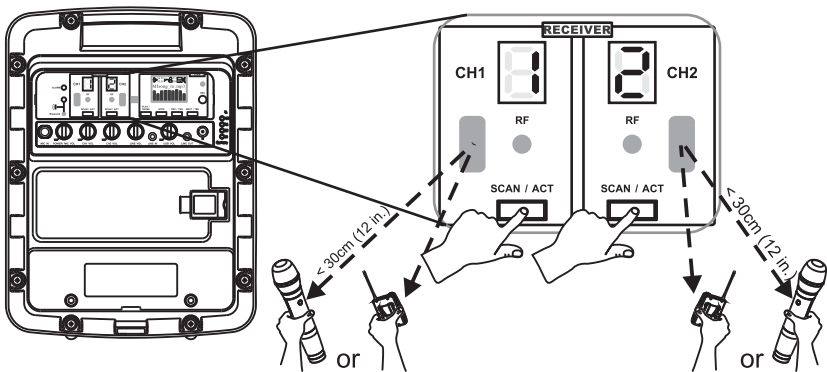

Fig. 6
- (1) Press & hold the SCAN button. Concurrently, turn on the Power Switch/Wireless Mic Volume Control. Press & release the SCAN button will move up to the next available ID code. Turn off the Power Switch/Wireless Mic Volume Control to save this ID CODE.
- (2) Turn on the Power Switch/Wireless Mic Volume Control back on again to perform the ACT synchronization with embedded ID code. Without performing this ACT synchronization step, no sound output because the ID codes has been changed even though the same channel number remains the same.
(F) ACT Synchronization (Sync) between Receiver and Transmitter Channels, Fig. 6:
- (1) Press and release SCAN/ACT button, the current channel blinks and is ready for ACT synchronization.
- (2) Power on handheld or bodypack transmitter. Bring the transmitter sync port (red indicator) within 30 cm (12-inch) of CH 1 or CH 2 receiver sync port, Fig. 6.
- (3) Once ACT synchronization is done, the channel screen will stop blinking and RF indicator glows green to indicate a successful RF link.
- (4) To cancel an accidental activation of ACT function, just press SCAN/ACT button again.